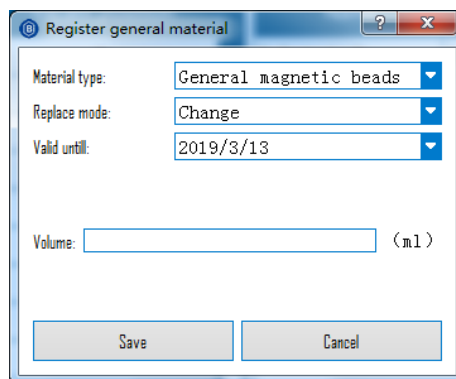

Figure. 8.4.7 General material registration
- Click **Add general material** in the **Reagent management** interface, as shown in Figure 8.4.1, to pop up the general material registration dialog box, as shown in Figure 8.4.7: